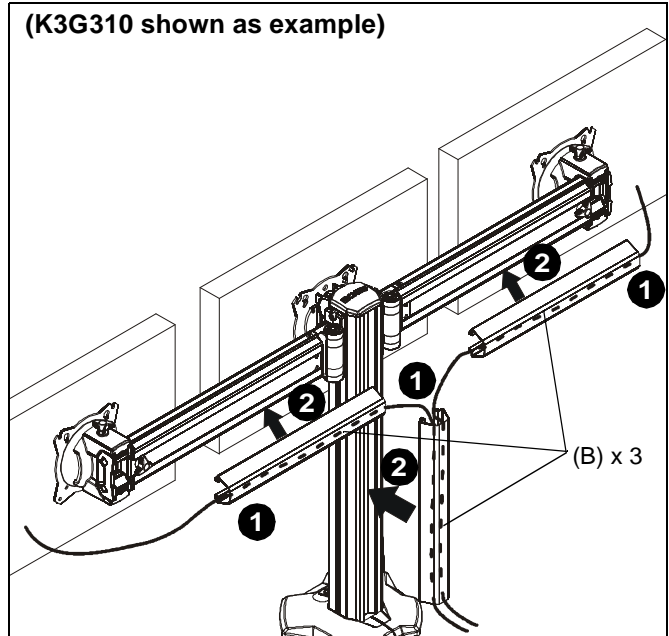
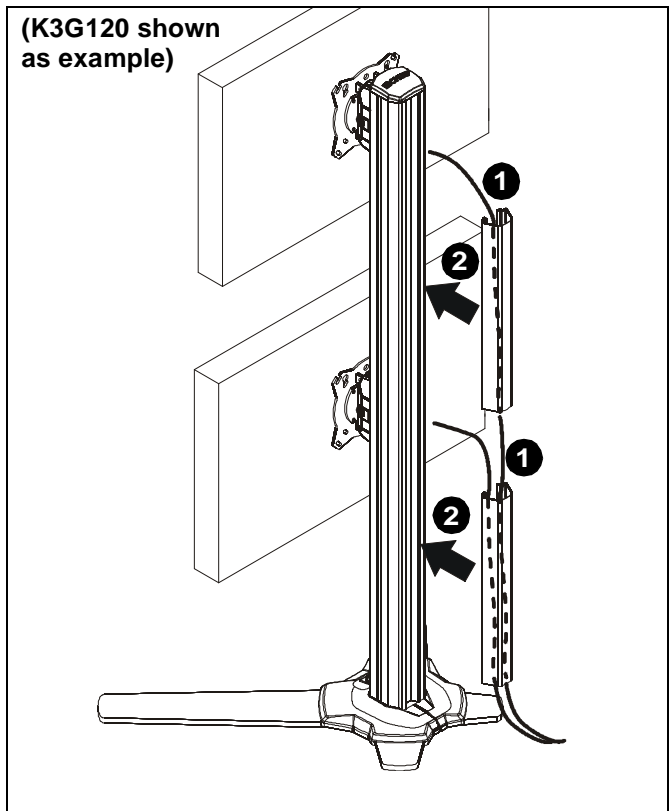

Figure 24
Figure 25
1. Route cables from display through cable management covers (B) as desired. (See Figure 24) and (See Figure 25)
2. Install cable management covers (B) onto array (A). (See Figure 24) and (See Figure 25)